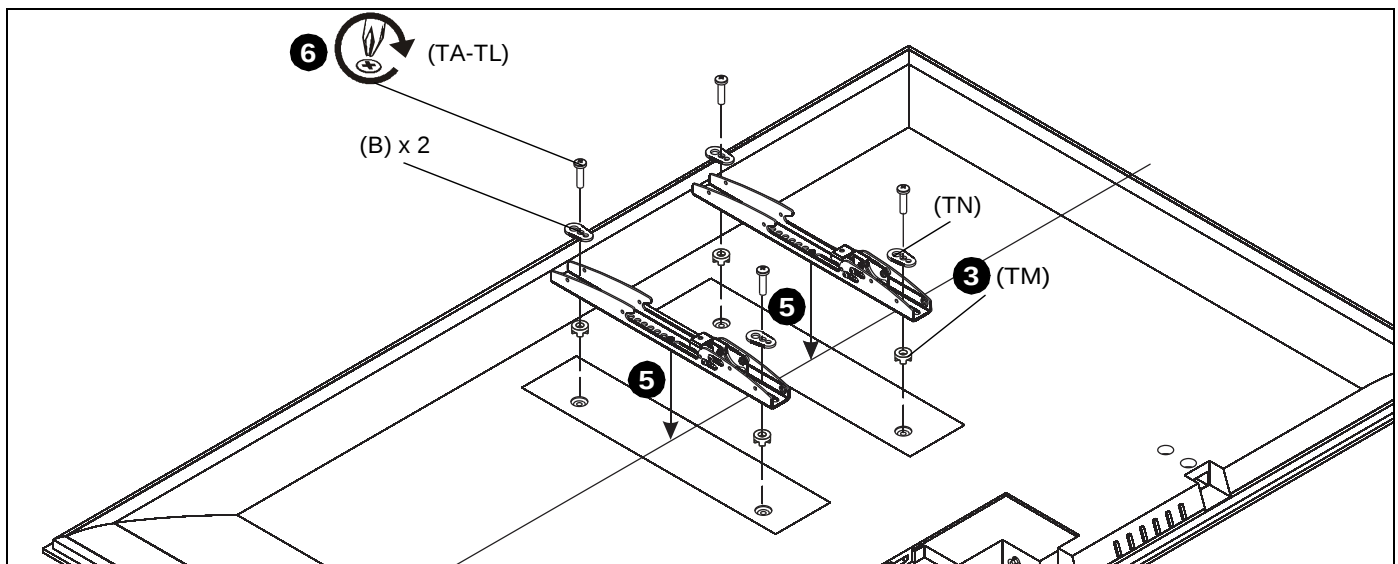

Figure 6
2. Select screw *diameter* by examining hardware (TA-TL) (4mm, 5mm, 6mm or 8mm) and comparing with mounting holes on display. (See Figure 6)
3. Select spacers: (See Figure 6)
- If mounting holes are not recessed and both uprights (B) can lay flat against display, then no spacers are required.
- If mounting holes are recessed, or if protrusions prevent uprights (B) from laying flat, then spacers (TL or TM) must be used.
4. Select screw *length*: (See Figure 6)
- Using your hand, insert **SHORTEST** length screw of selected diameter (TA, TD, TG or TJ) through universal washer (TN), uprights (B), nesting spacer (TM), into display mounting hole. Do NOT thread screw into hole at this time.
5. Place uprights (B) on display, ensuring: (See Figure 6)
- Center of uprights (B) are as close to the center of the back of display as possible after being installed. Center of bracket is indicated by the diamond-shaped hole.
6. Use selected screws and spacers to install two interface uprights (B) to back of display. (See Figure 6)